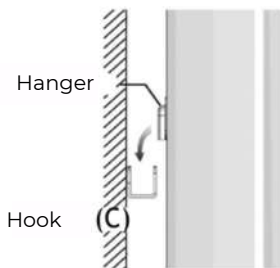

Figure 9
► Hand the heater on the two hooks (C) on the wall. Ensure that the heater is correctly secured on both hooks. (Figure 9).
5. When the heater is hung in place, make two marks on the wall where the two brackets (A) will be fixed to ensure the